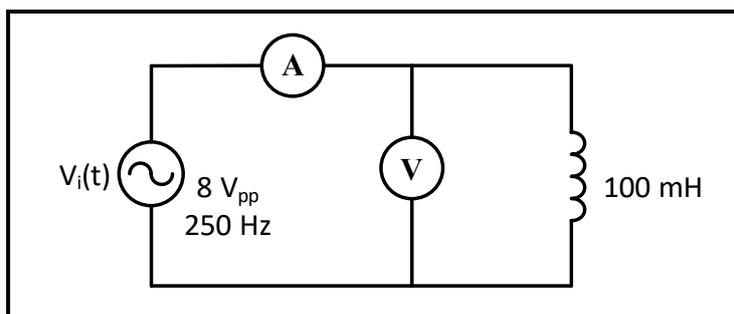

Figure 8.9
3. Connect the circuit in Figure 8.9, set V_{in} to sinusoidal voltage at $8 V_{pp}$, $f = 250$ Hz.
a. Repeat steps (a) and (b) in (1) for the circuit of Figure 8.9 record results in Table 8.3.